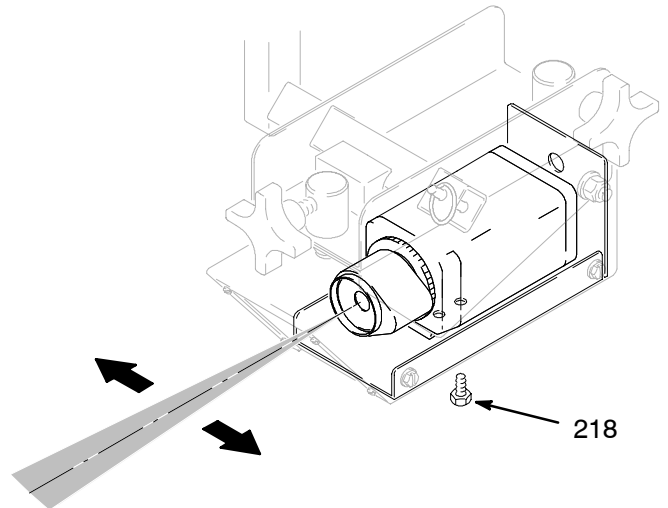

Fig. 12 9210A
2. If adjustment knob (C) runs out of adjustment, see Fig. 12: Loosen camera bolts (218), shift camera in direction needed to obtain adjustment, and tighten bolts.